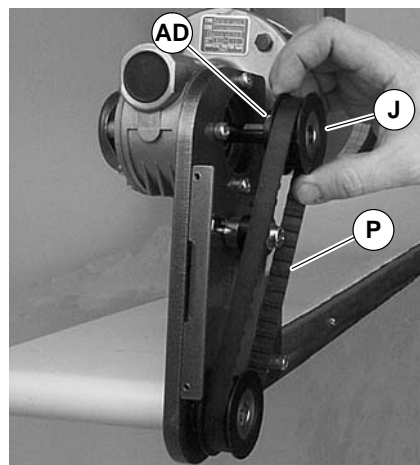

Figure 21
NOTE: If drive pulley (J of Figure 21) is replaced, wrap timing belt around drive pulley and complete step 3.
3. Loosen drive pulley set screws (AD of Figure 21). Remove drive pulley (J) and timing belt (P).
NOTE: Drive pulley (J of Figure 21) is removed. Wrap timing belt around drive pulley and complete step 14.